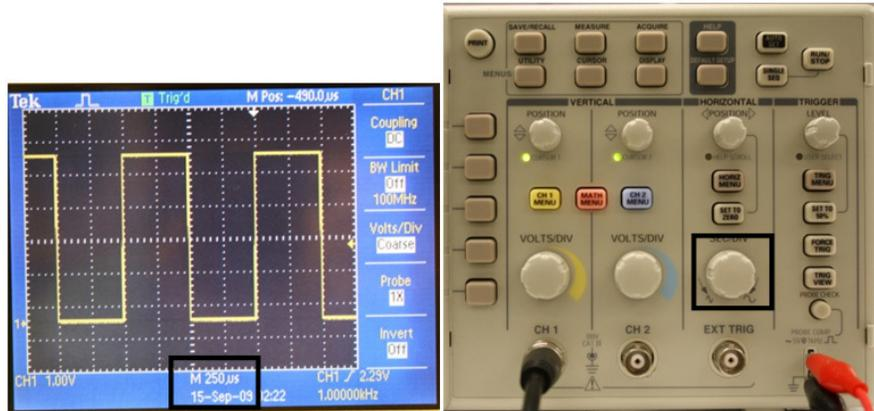

Figure 6: The seconds per division is shown on the bottom of the screen. The “SEC/DIV” knob scales the X-axis.
2. A 1 KHz square wave should have 1 period every 1 ms. Let's set our time scale to 250 μ s so we can see 2.5 periods of our square wave on screen, as in Figure 6.